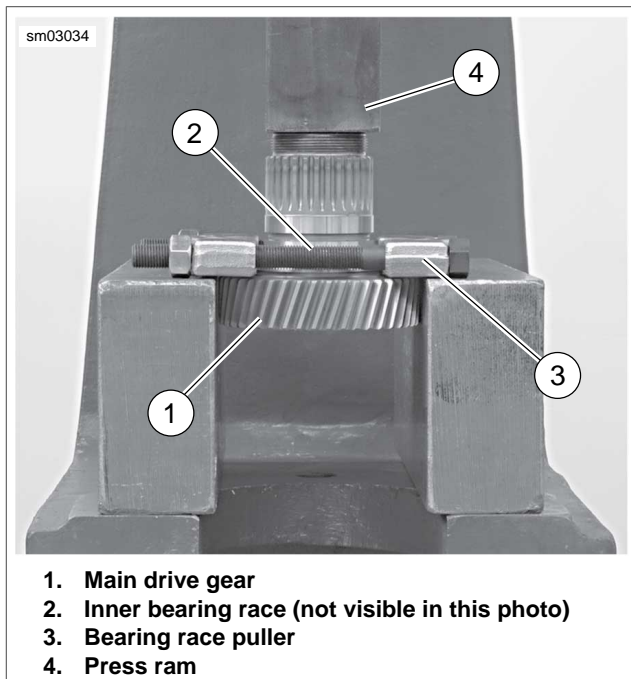

Figure 7-34. Removing Inner Bearing Race From Main Drive Gear
- See Figure 7-34. When the main drive gear is removed, a portion of the bearing inner race remains attached to